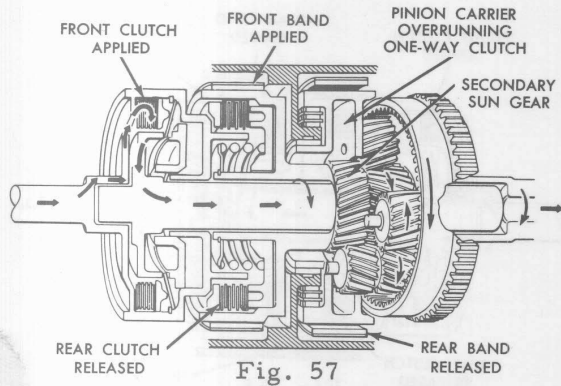

Fig. 57
- ⊗ Second speed is provided by driving the primary sun gear and holding the secondary sun gear stationary (Fig. 57). The primary pinions drive the secondary pinions which caused them to "walk" around the secondary sun gear and rotate the internal gear and output shaft around with them.